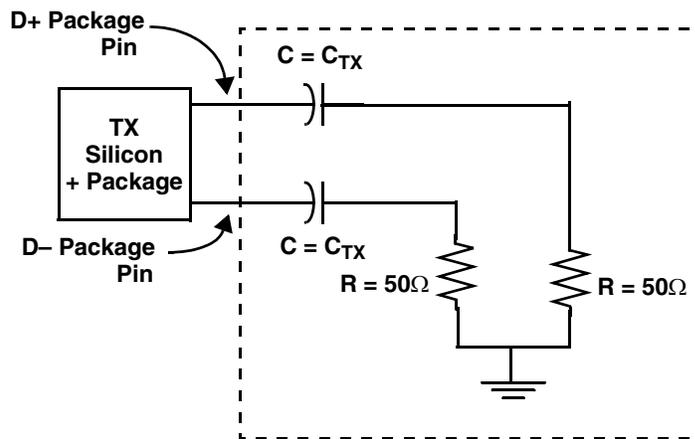

Figure 47. Compliance Test/Measurement Load
- 2 Specified at the measurement point and measured over any 250 consecutive UIs. The test load in Figure 47 should be used as the Rx device when taking measurements. If the clocks to the Rx and Tx are not derived from the same reference clock, the Tx UI recovered from 3500 consecutive UI must be used as a reference for the eye diagram.
- 2 Specified at the measurement point into a timing and voltage test load as shown in Figure 47 and measured over any 250 consecutive Tx UIs.
Transmitter and receiver AC characteristics are measured at the transmitter outputs (SD_TX n and SD_TX_B n) or at the receiver inputs (SD_RX n and SD_RX_B n). The AC timing and voltage parameters must be verified at the measurement point, as specified within 0.2 inches of the package pins, into a test/measurement load shown in Figure 47.